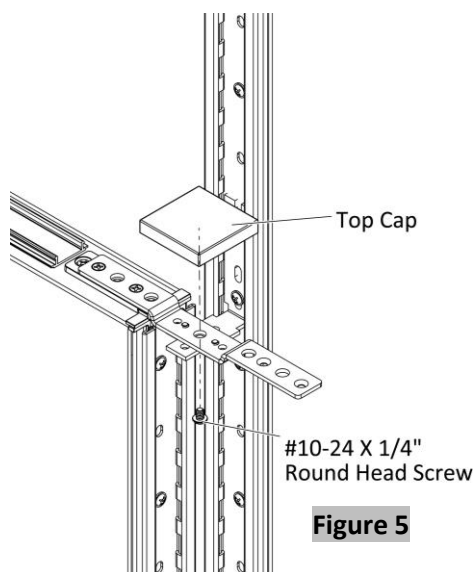

Figure 5
8. Position and securely fasten the top cap into the connectors with #10-24 X 1/4" Round Head Screw, (Figure 5).